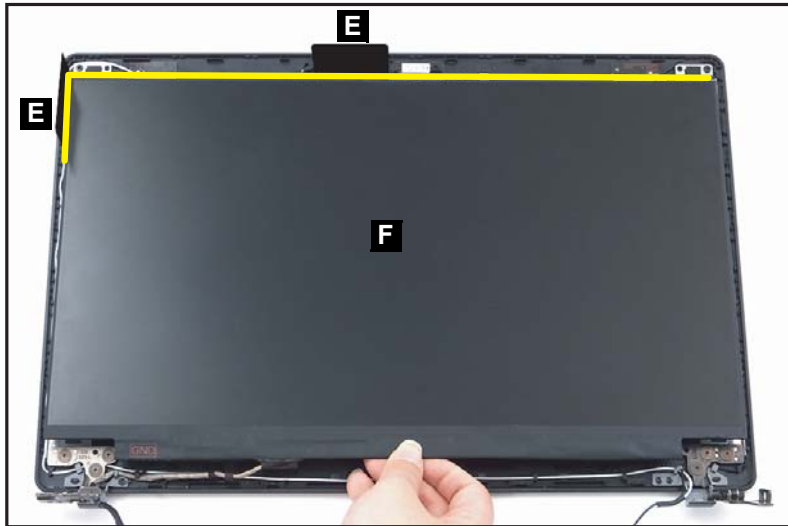

Figure 1-78. Replacing the LCD Panel
6. Place two (2) 0.5mm LCD alignment mylars (E) on the upper part of the LCD cover as shown in Figure 1-78.
7. Starting from the left edge and upper side, carefully place the LCD panel (F) on the LCD cover. Then press the LCD panel down until it is firmly seated on the LCD cover (Figure 1-78).